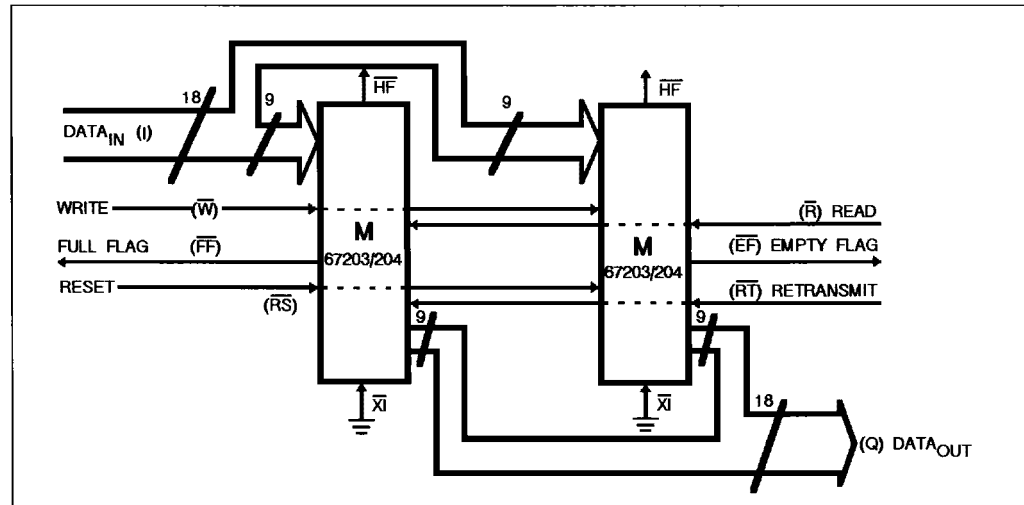

Figure 3 : Block Diagram of 2048/4096 x 18 FIFO Memory Used In Width Expansion Mode.
device. Figure 3 demonstrates an 18-bit word width by using two M 67203/204. Any word width can be attained by adding additional M 67203/204.
- 7. For flag detection see section on Width Expansion and Figure 3.